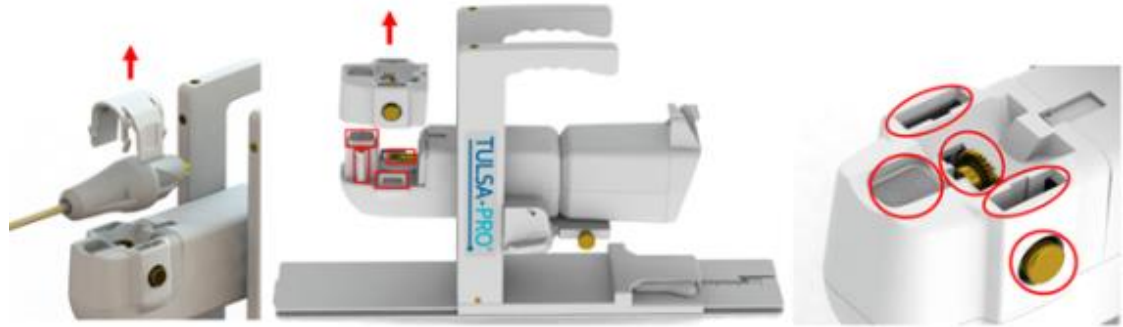

Figure 63: Inspecting the Positioning System
- c. Repeat steps 1 and 2 as necessary until no visible soiling remains, closely inspecting the areas around the gripper and gear (*Figure 63*).